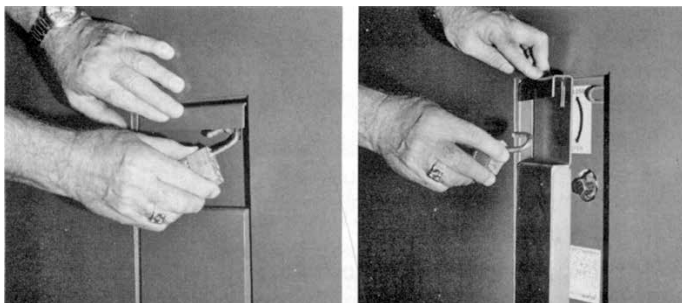

Figure 12. Remove Padlock and Open Door.
1. Remove padlock and open switch lockbox access cover. (Figure 12)